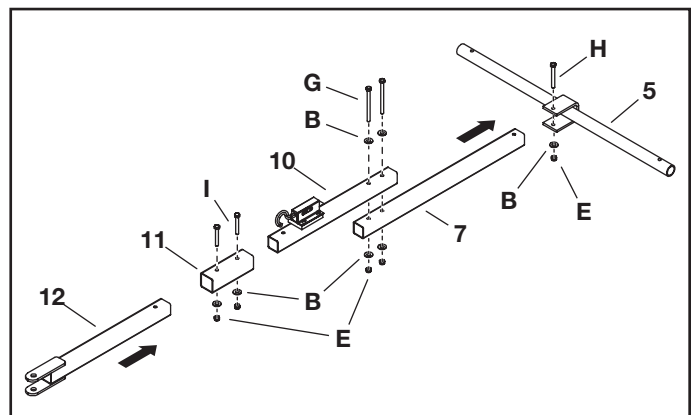

FIGURE 3
STEP 3: (SEE FIGURE 3)
- Insert the rear tongue tube (7) into the "u-bracket" on the axle tube (5) and secure with one M8x70 mm bolt (H), M8 steel washer (B), and M8 locknut (E).
- Secure the latch tube assembly (10) to the top of the rear tongue tube (7) with two M8x100 mm bolts (G), M8 steel washers (B), and M8 locknuts (E).
- Insert the latch tube assembly (10) and the front tongue tube (12) into the connector pocket (11) and secure with two M8x60 mm bolts (I), M8 steel washers (B), and M8 locknuts (E).